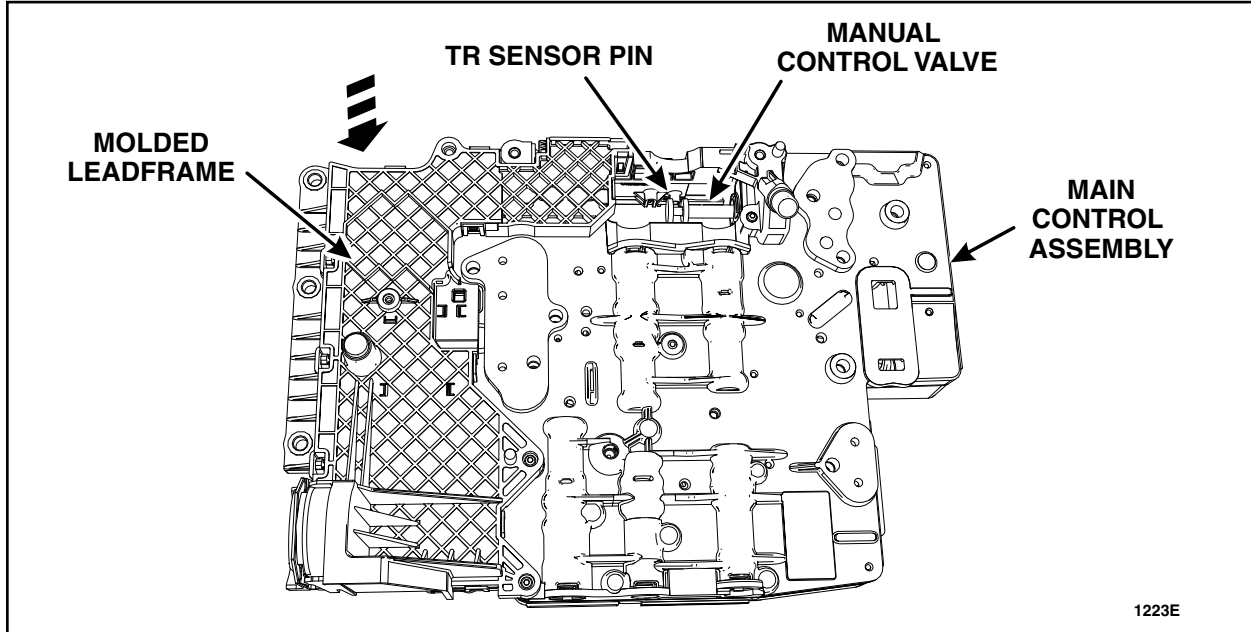

FIGURE 3
6. Install the *new* molded leadframe on the main control assembly. See Figure 3.